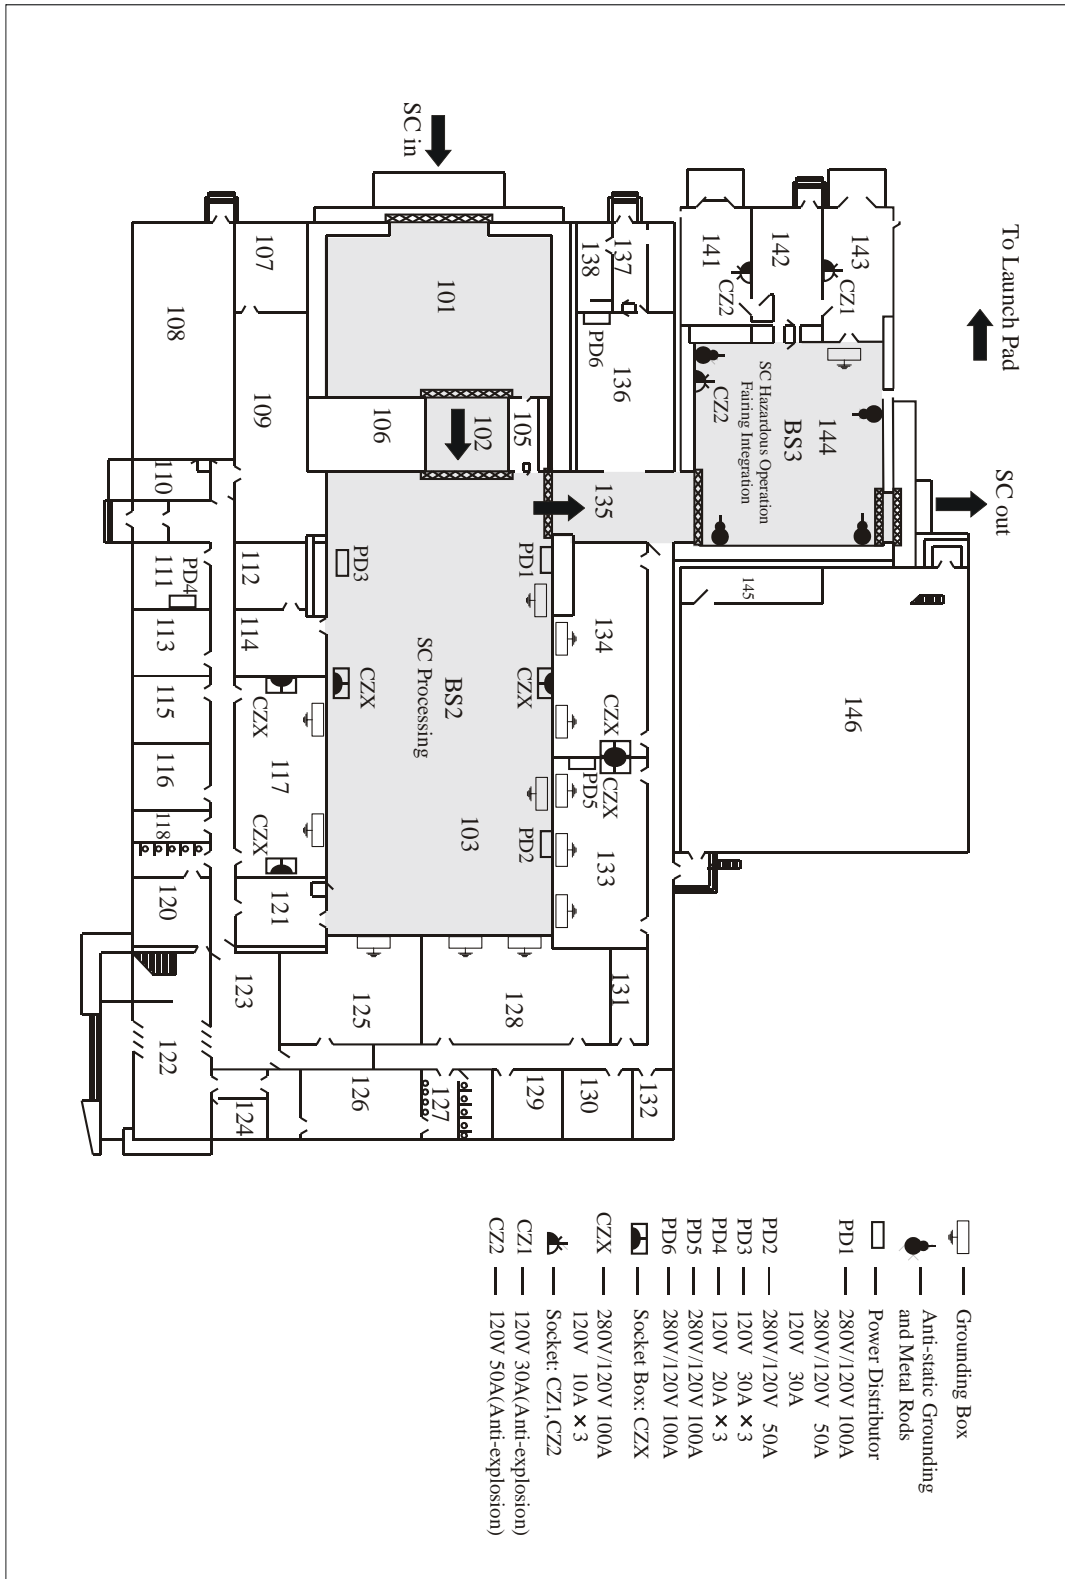

Figure B7-3 Layout of First Floor of BS Building
The SC Processing Buildings includes Test and Fueling Building (BS2 and BS3), Solid Rocket Motor (SRM) Testing and Processing Buildings (BM), X-ray Building (BMX), Propellant Storage Rooms (BM1 and BM2). BS2 is non-hazardous operation building, and BS3 is hazardous operation building (BS3). All of the SC's pre-transportation testing, assembly, fuelling and SC/Adapter operations will be performed in BS2 and BS3. Refer to **Figure B7-3**, **Table B7-1** and **Table B7-2**.
Refer to **Figure B7-3** and **Table B7-1**.
Refer to **Figure B7-3** and **Table B7-2**.